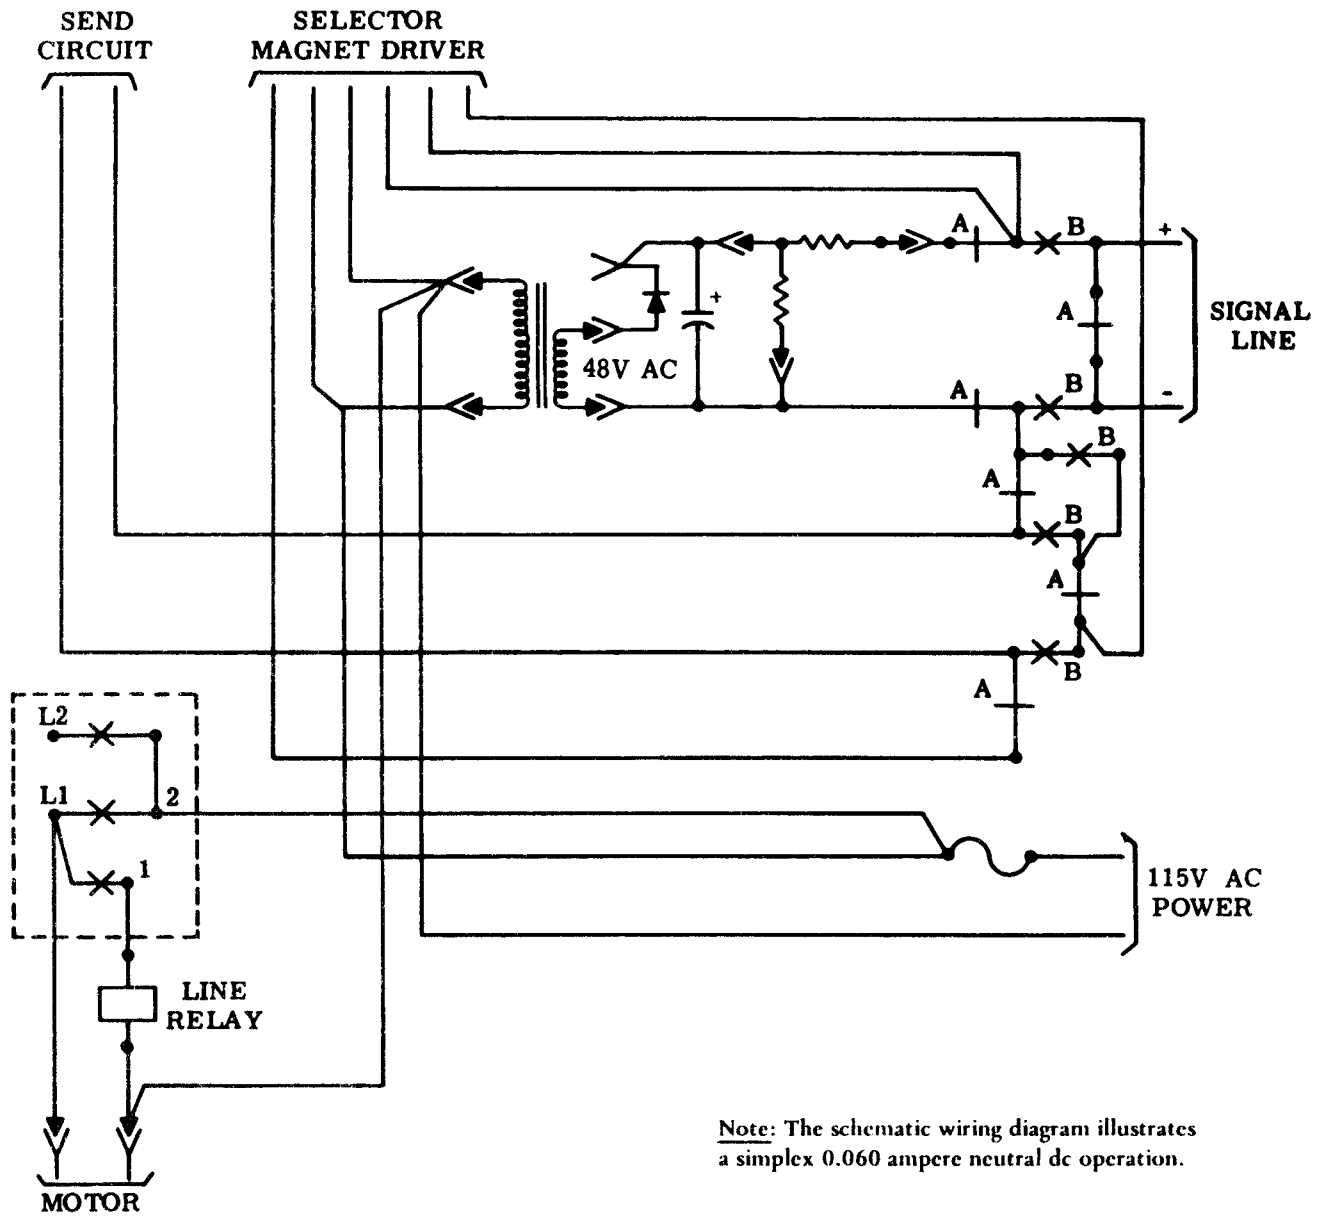

Figure 13 - Rotary Power Switch and Local Power Supply Circuit
4.03 The 3-position rotary switch (electronically shown in Figure 13) is the only manual control on the call control unit. Through its operation the teletypewriter can be (1) placed in the external signal line loop for communication with other teletypewriters, (2) removed from the external signal line loop for local operation, or (3) placed in the off condition.